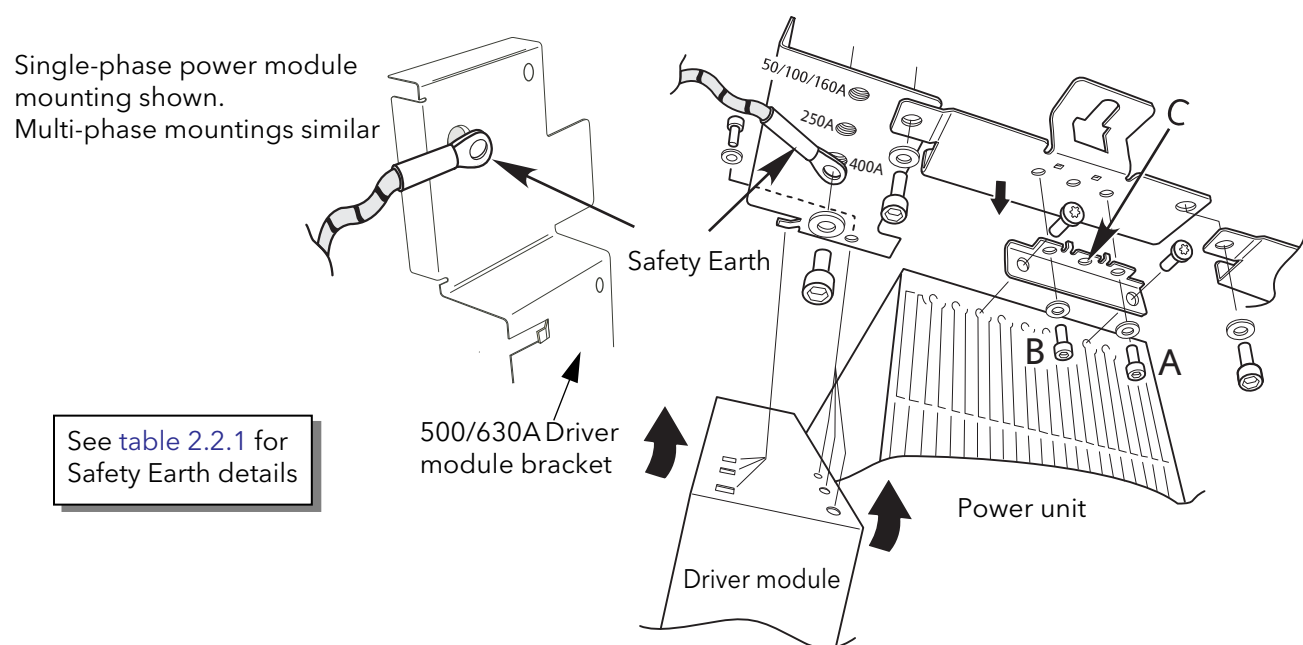

Figure 2.1.1a Bracket fixing details
Figure 2.1.1a, below, shows details of a generalised mechanical assembly for the top of the units. Assembly details for the bottom brackets is similar, except that there is no safety earth fixing. The power module shown is a 400 Amp unit for which the module is fixed to the support brackets using holes A and B. Lower current power modules use only one screw (C) to secure the module to the support bracket.
Figures 2.1.1a to 2.1.1f show fixing centres and other mechanical details for the various modules.
The safety earth connection for the driver/power module set is made to the mounting bracket above the unit as shown in figures 2.1.1a to 2.1.1f, above. The connection must be made using the correct size of terminal and correct gauge of cable, as given in table 2.2.1 below.